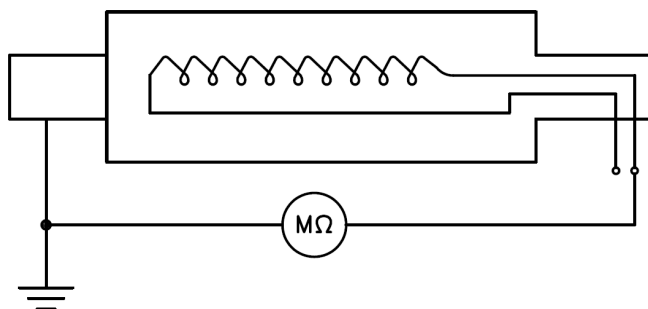

Figure 2
- **Rotor windings**: measure the insulation resistance between a terminal of the winding of the main rotor on the rectifying bridge and the rotor ground (shaft). (see **figure 2**)